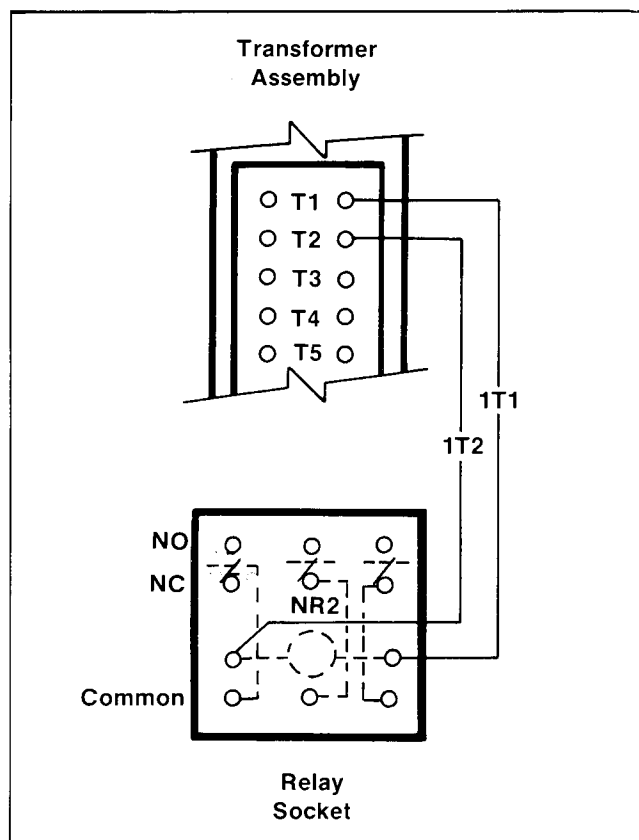

Figure 25. 14-C Connections
- **Acc. 14-C—Three Sets of Contacts Available on Normal Side.** This relay is provided with accessories 29-C, 29-E, 29-H, and 29-J which then allows only 2 sets of contacts available for other use. See Figure 25 for connections.